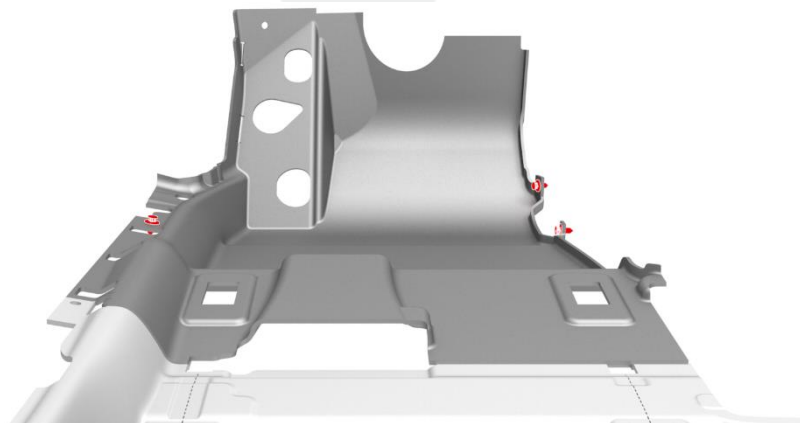

Figure 3
11. Remove the clips (x3) that attach the LH front carpet to the vehicle (Figure 3).
20. Install the clips (x3) that attach the LH front carpet to the vehicle (Figure 3).